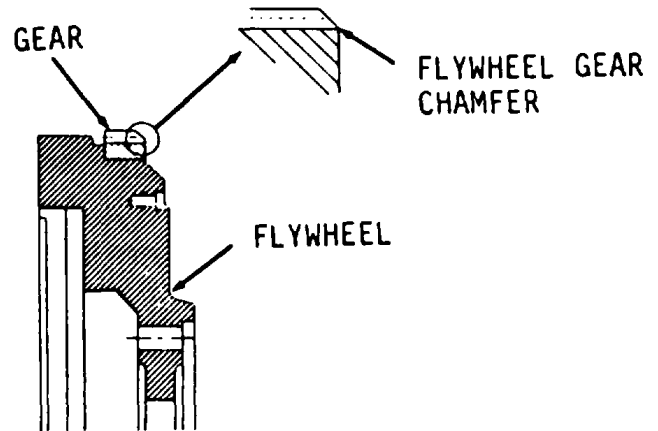

Figure 13-37.
2. Install gear immediately, if removed. Gear must face engine and face of gear must rest flush against shoulder of flywheel. Allow gear time to cool (Figure 13-37).